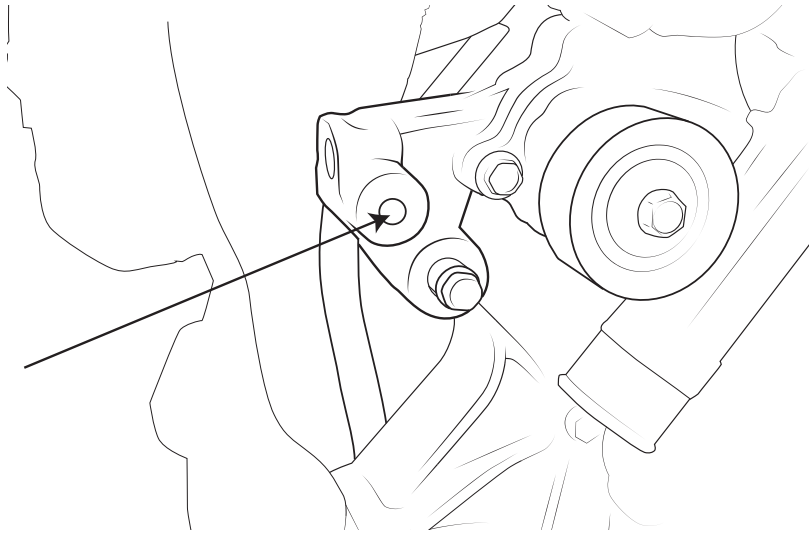

Figure 22: Drill out upper alternator mounting hole.
19. If the upper alternator mounting hole is not a pass through hole, you will need to drill it open. We recommend starting with a 13/64", then a 21/64", and finally ending with a 13/32" drill bit (fig 22).